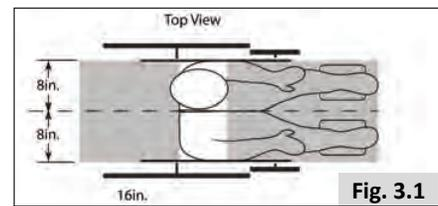

Fig. 3.1
3. The recommended clear zones for wheelchair seated occupants restrained by both pelvic and upper-torso belt(s) and only by a pelvic belt are shown in the diagrams (Fig. 3.1 and 3.2) and described below. Frontal Clear Zones (FCZ) need to be larger when upper torso belt(s) are not used. The Rear Clear Zone of 16" (40.5 cm) is measured from the rearmost point on an occupant's head. The Frontal Clear Zone is measured from the front most point of an occupant's head and is 26" (66 cm) with pelvic and upper-torso belt(s) and 37" (94 cm) with only a pelvic belt. The frontal clear zone may not be achievable for wheelchair-seated drivers.